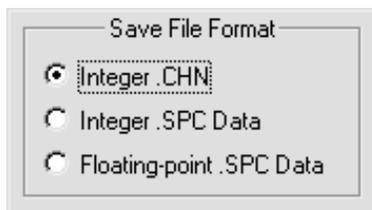

Figure 10. Radio Buttons.
- **Radio buttons** (Fig. 10) appear on many ISOTOPIC dialogs, and allow only one of the choices to be selected.